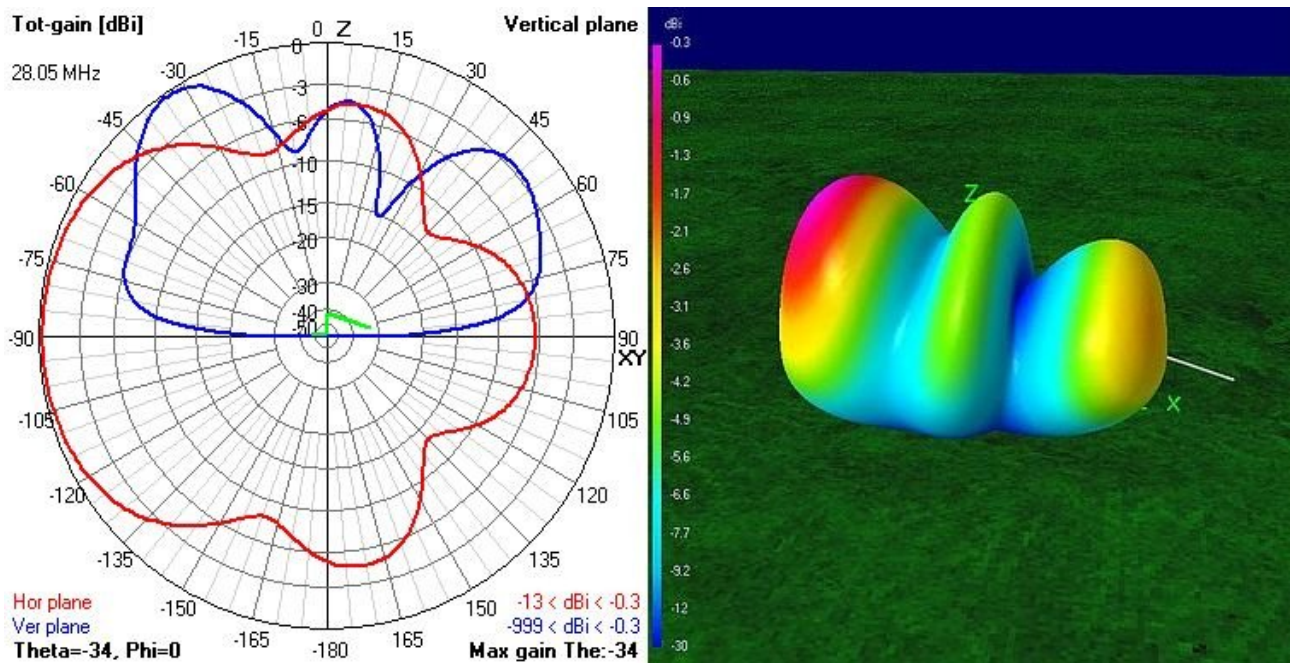
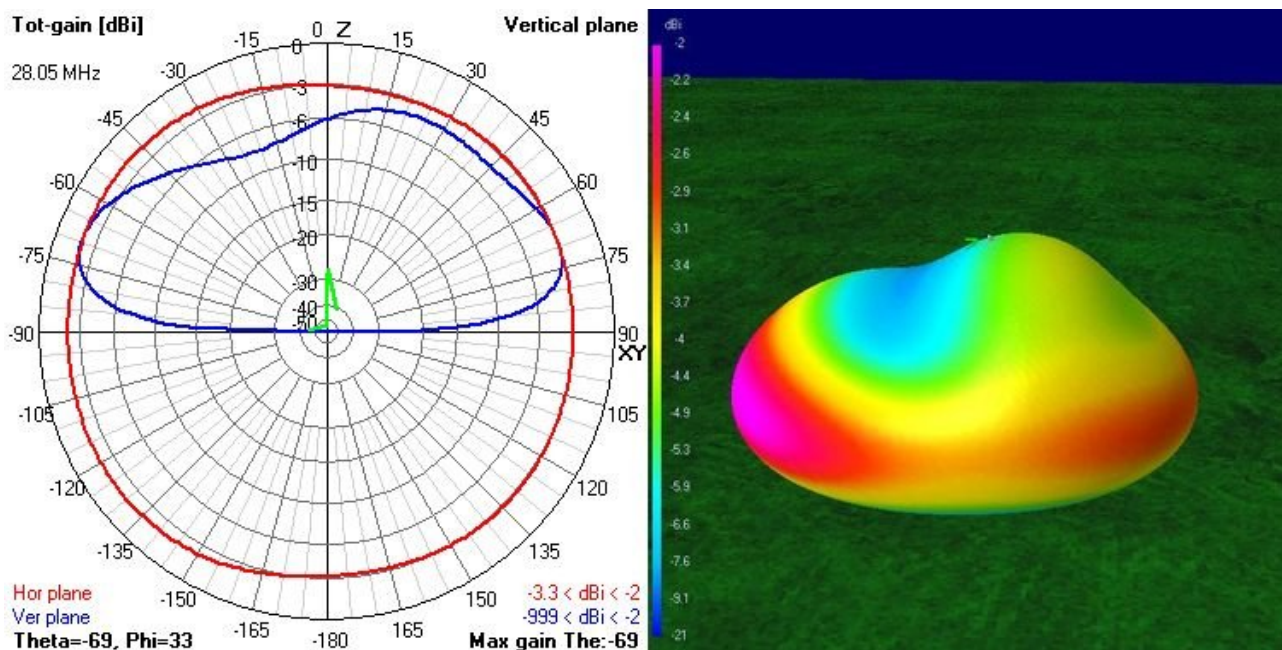

Figure 16: 10-meter-band radiation pattern (2λ)
Figure 17: 10-meter-band radiation pattern ( $1\lambda$ ) of the compact EFHW antenna
- If we do not only focus on the coupler, but look at the whole antenna system including the antenna radiation pattern, it would be better to use two different antennas for a lower and a higher band segment, e.g., a standard 20m-long radiator with a switchable coil for the 60- and 40-meter bands and a compact 10m-long radiator for the 20- to 10-meter bands. The main reason is that a  $0.5\lambda$ - or  $1\lambda$ -long radiator has a more uniform pattern compared to a  $1.5\lambda$ - or  $2\lambda$ -long radiator (see Antenna Radiation Pattern). Unfortunately, swapping antennas takes time and effort, which is something a typical SOTA activator tries to avoid. In practice, I did several sporadic E contacts on the 10-meter band transmitting with only 5W even on FM and using the inferior  $2\lambda$ -long radiator. Its pattern looks like a cloud burner (see Figure 16), but when the 10-meter band is open, even a mediocre antenna works pretty well. For the sake of simplicity, I stick to one main antenna and accept its limits on the higher bands. When focusing for an extended time on the higher bands, one can still choose the compact 12m-long antenna (see below) with its better radiation pattern especially on the 10-meter band (see Figure 17). It can also be used on the 40-meter band, albeit with less efficiency.